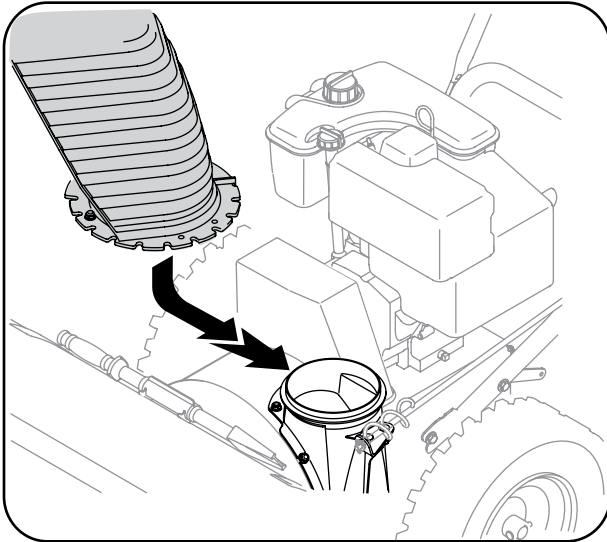

Figure 3-5
1. Remove lock nuts and screws securing one of the flange keepers to the chute assembly. Loosen the fasteners of the other two flange keepers. See Figure 3-5.
2. Place chute assembly onto chute base as shown in Figure 3-5. Make sure that the chute notches engage with the spiral end of chute directional control, and the two flange keepers are beneath the flange on the chute base.